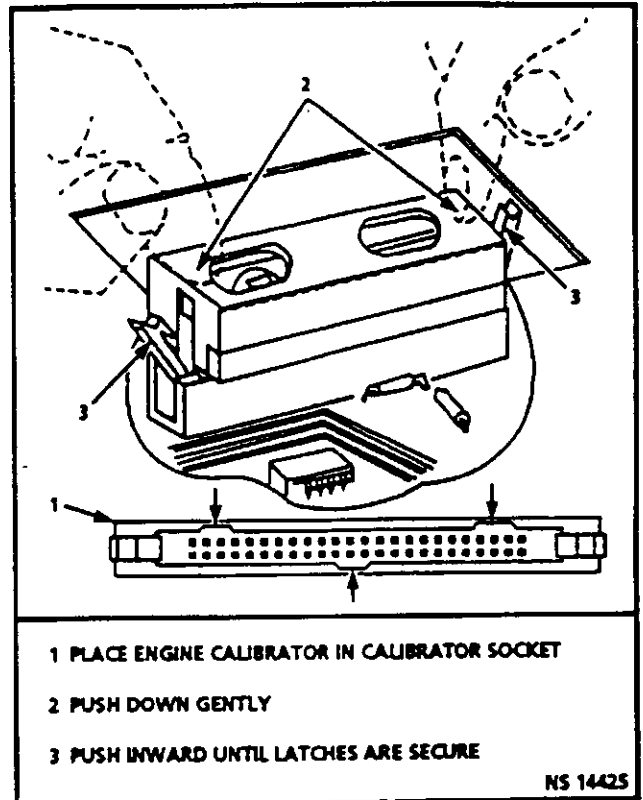

Figure 3.1-5 Engine Calibrator Installation
**VERY GENTLY** press down on the ends of the engine calibrator until the locking levers are rotated toward the sides of the engine calibrator. (Figure 3.1-5.)
VERY GENTLY press down on the ends of the engine calibrator until the locking levers are rotated toward the sides of the engine calibrator. (Figure 3.1-5).
- If not fully seated, press firmly on engine calibrator assembly. (Figure 3.1-5).